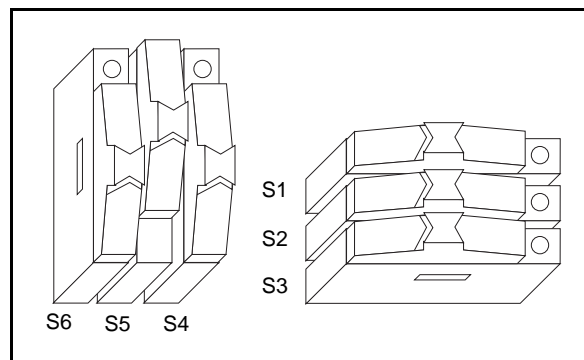

Figure 2. Single-Ended Temperature Sensor Switch Configuration with Accessory Grounds Connected
- For single-ended operation, connect the analog channel 0 to the temperature sensor by switching S5 to the up position, as shown in Figure 2. The signal is referenced to analog input ground (AIGND).